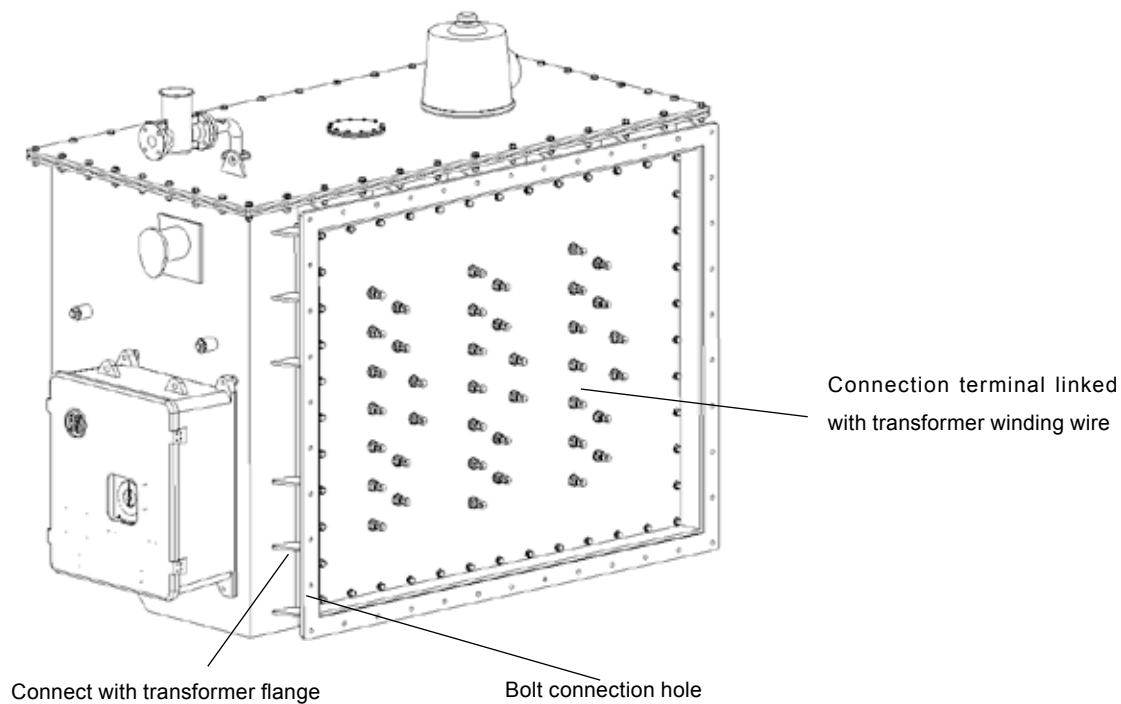

Fig. 11
9.2 Connect Type HWV OLTC and mounting flange of transformer oil tank with screw thread. (See Fig. 11)